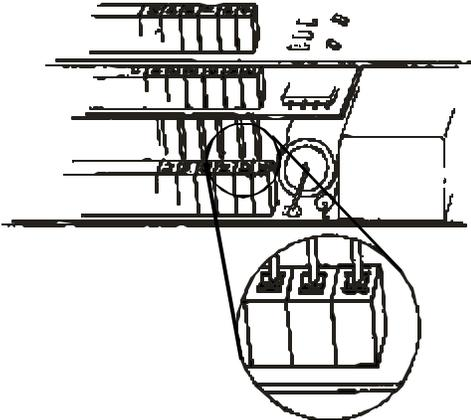

Figure 15: Lining Up The Pins Before Pressing The ProtoSound Boards Together
4) Carefully align the pins from the combination ProtoSound and PS-1 board into the socket holes on the reverse unit. Be sure that the pins line up in the holes and are correctly centered in each socket as shown in Figure 15. Center the pins on one side of the board, hold in place and then align the pins on the other socket strip. Do not press the boards together yet.